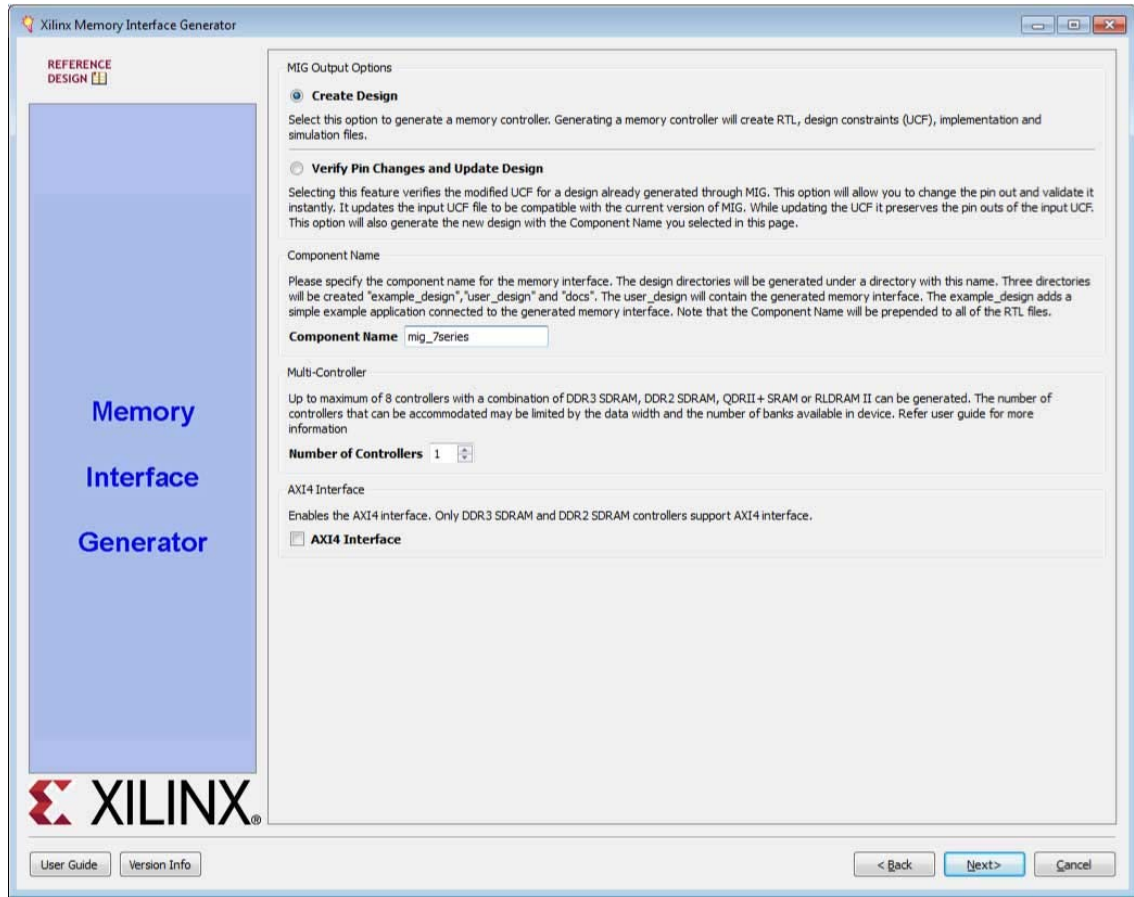

Figure 2-14: MIG Output Options
1. Select **Create Design** to create a new Memory Controller design. Enter a component name in the Component Name field (Figure 2-14).